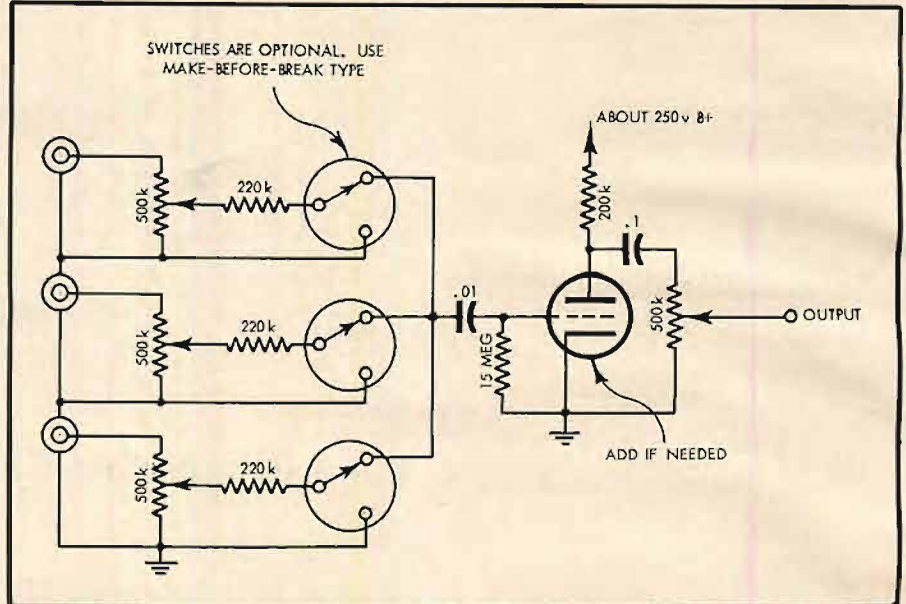

Fig. 2.
A. Your diagram would result in tremendous interaction among the gain settings of each microphone. Figure 2 is a suggested mixing arrangement that would produce much less interaction, at most about 6 db. The minimum insertion loss of this arrangement for any one microphone is about 4 db, and the maximum is about 10 db, the latter occurring when the other two microphones are at minimum volume. The diagram includes optional switches for each microphone. This means that if you are using only one microphone you can avoid any insertion loss at all, or at least minimize such loss, by opening up the switches to the other two microphones. These switches should be of the make-before-break type in order to avoid popping.